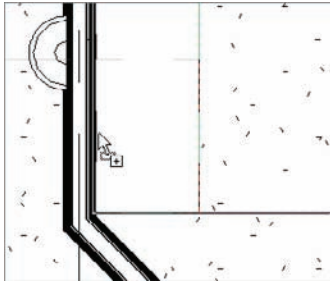

FIGURE 9.60 Placing the 36" (900mm) double-door, two-drawer base cabinet
6. Place a Base Cabinet Double Door & 2 Drawer 36" (900mm) in the position shown in Figure 9.60.